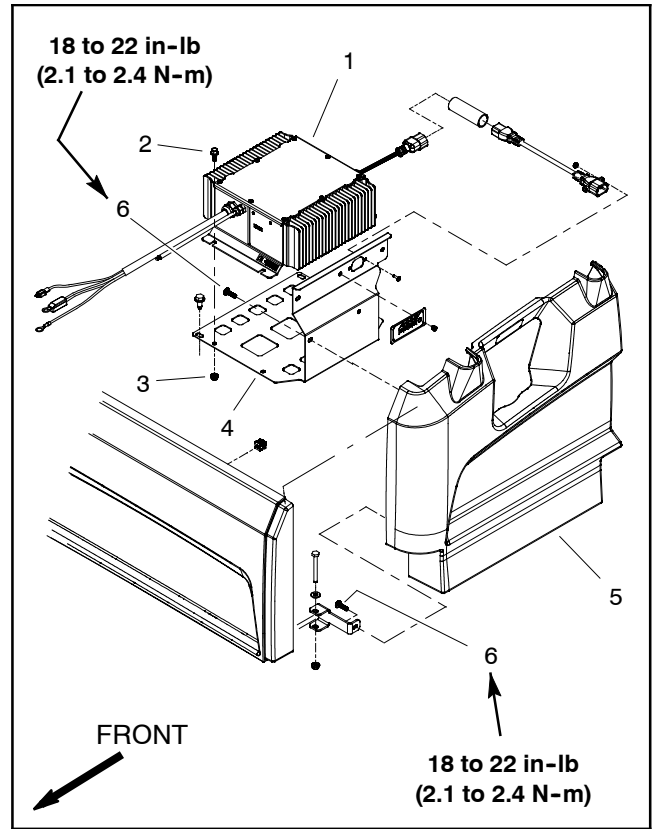

Figure 38
3. If left hand seat base side is to be removed from vehicle (Fig. 38):
- B. Remove four (4) screws that secure seat base side to charger bracket (Fig. 38).